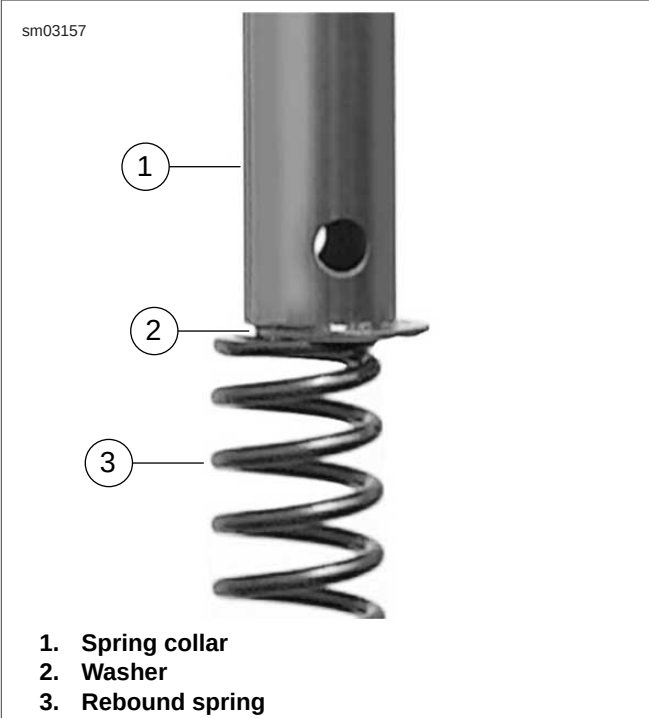

Figure 2-196. Collar, Washer and Spring Assembly
10. See Figure 2-196. Install rebound spring in fork tube (with tightly wound end at bottom), washer, and spring collar.